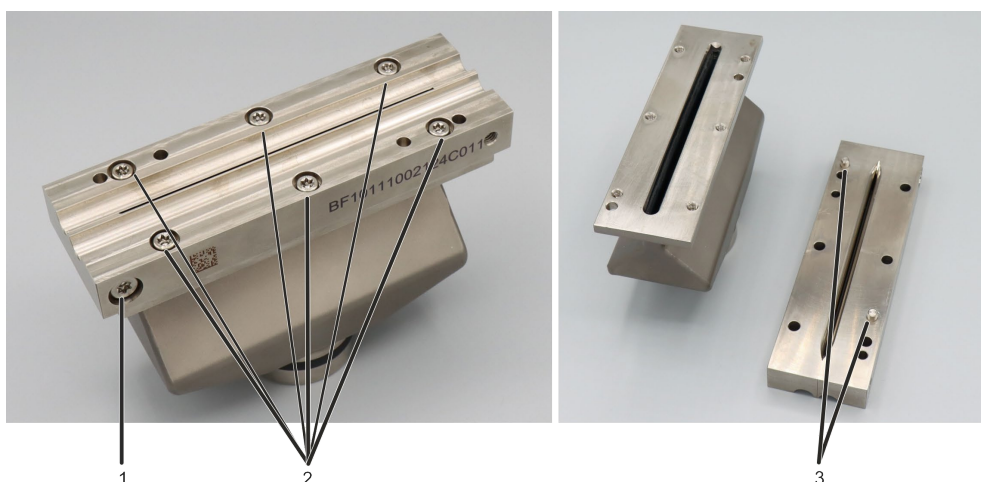

Fig. 61 Fittings of the burner
1. Undo the screw joints (2 in Fig. 61) of the burner jaws on the burner body and remove the burner jaws.
4. Screw the burner jaws onto the burner body, the dowel pins (3 in Fig. 61) on the burner ensure correct positioning.